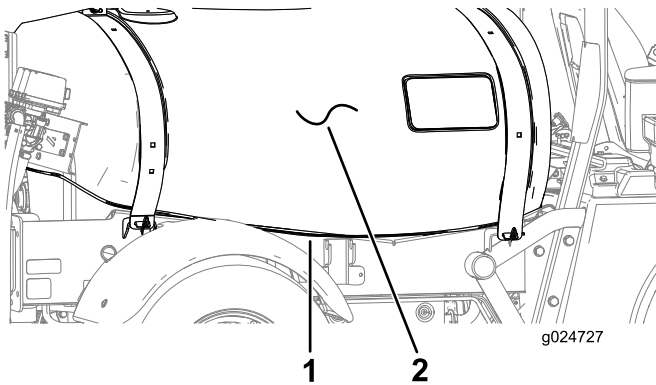

Figure 11
- Route the wiring harness along the right-frame channel adjacent to the tank (Figure 11).